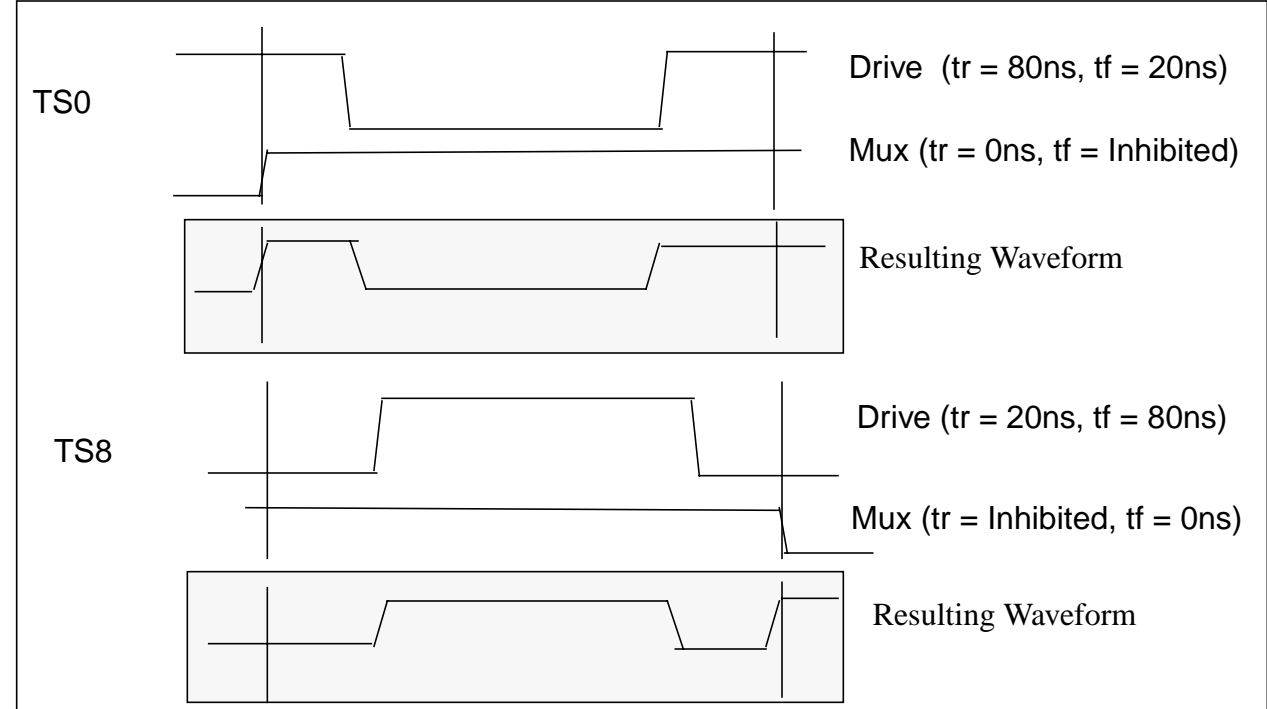

Figure 2 - Timesets 0 and 8 Drive and Mux signals for Input Only Pins
- ✳️ Program the two timesets to set up the correct edges for rise, fall, and mux. One timeset will have $t_{\text{rise}} < t_{\text{fall}}$ (RZ), and the other will be programmed with $t_{\text{rise}} > t_{\text{fall}}$ (R1). See Figure 2 for more information..